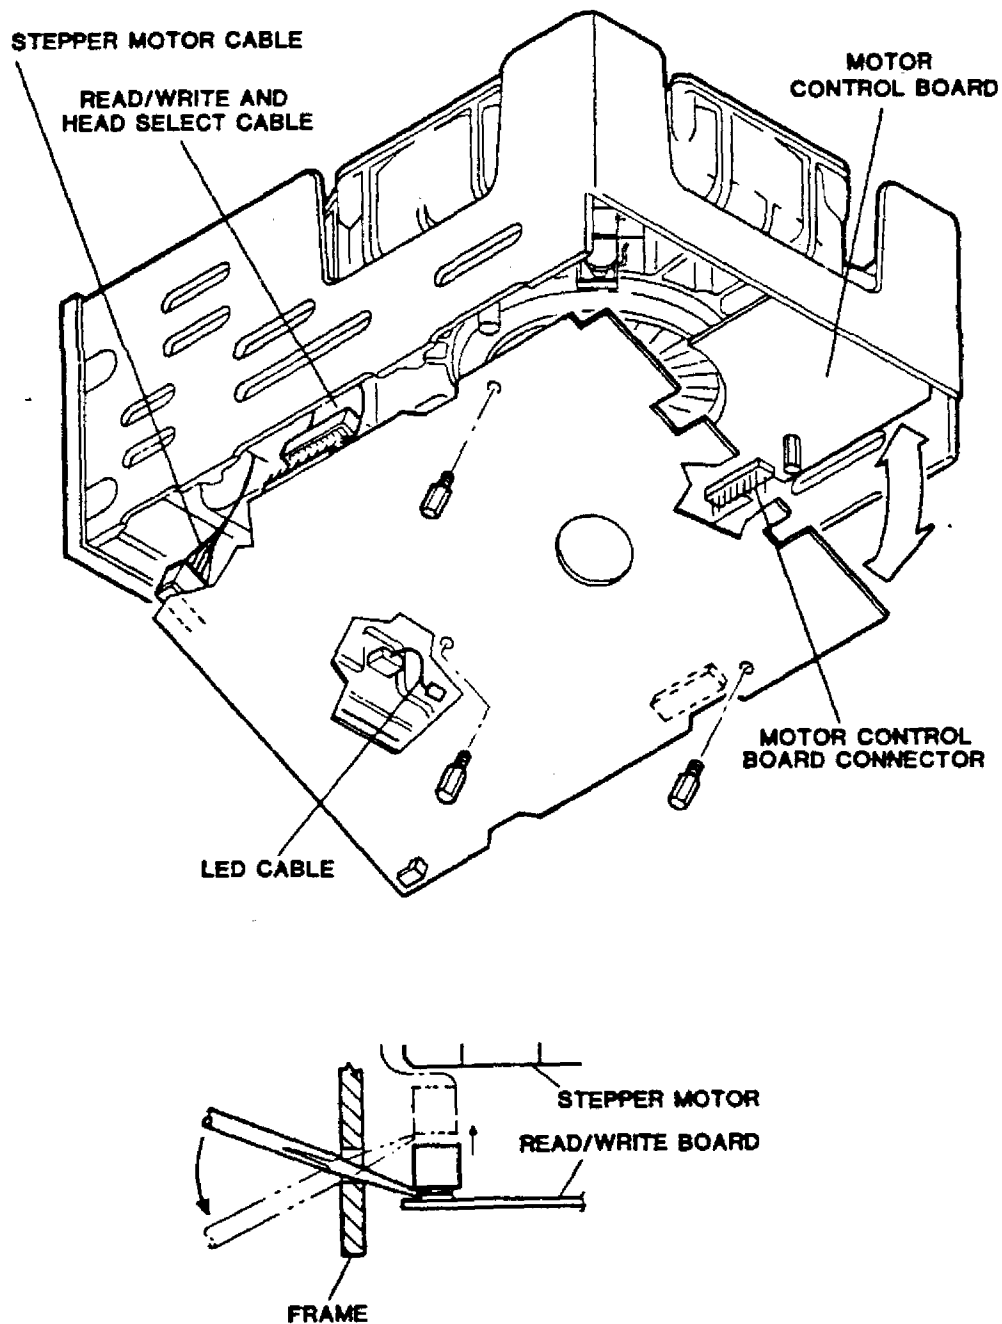

Figure 1: READ/WRITE BOARD REMOVAL AND REPLACEMENT
9. Referring to figure 1, separate Read/Write cable from existing WDI-II Read/Write board using a flat bladed screw driver while board is still attached to the drive housing. Remove three stand-offs securing the existing WDI-II Read/Write board to the drive housing. Carefully lift the WDI-II Read/Write board away from Motor Control board connector and tilt the board away from the drive housing.